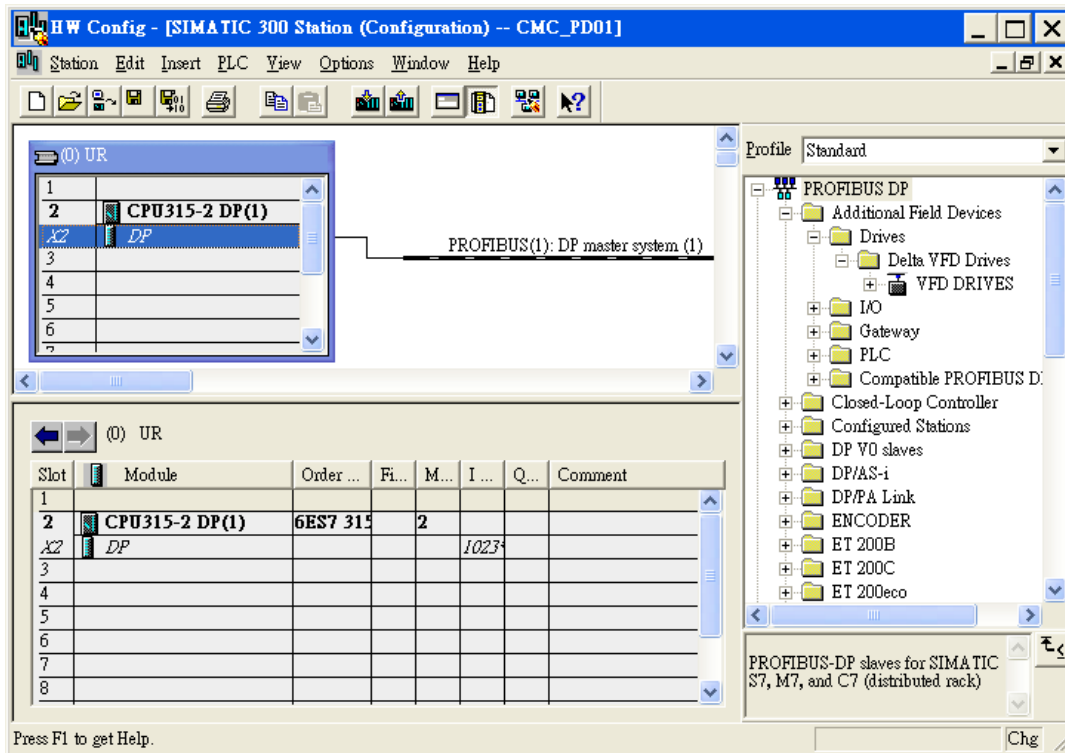

Figure 7-16
- Once all the parameters are set, a PROFIBUS DP bus will appear after the UR window. See Figure 7-16.